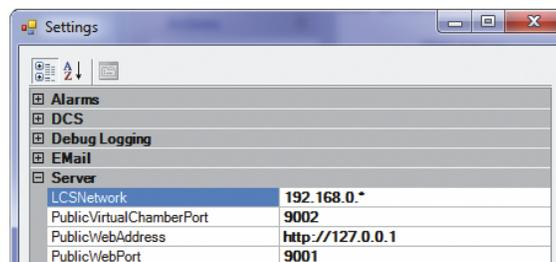

Figure 7-34 Server Settings
5. Enter this address in the **Server** settings, **PublicWebAddress** option (Figure 7-34).